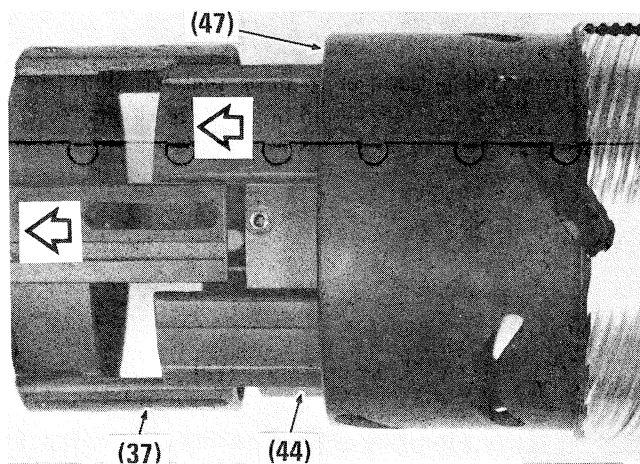

FIG. 4-16
- d) Slide 2nd lens group slide housing (37) and 3rd lens group slide housing (44) out front of inner helicoid (47). Fig. 4-16.
- c) Insert the slide housings into inner helicoid so that third lens slide housing (44) enters inner helicoid first. Fig. 4-16.